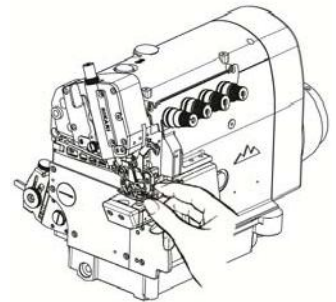

Fig.2
- Check to see if the presser foot is secured (raise the presser foot by the foot lifter and press it by hand front to back and left to right) (Fig.2)